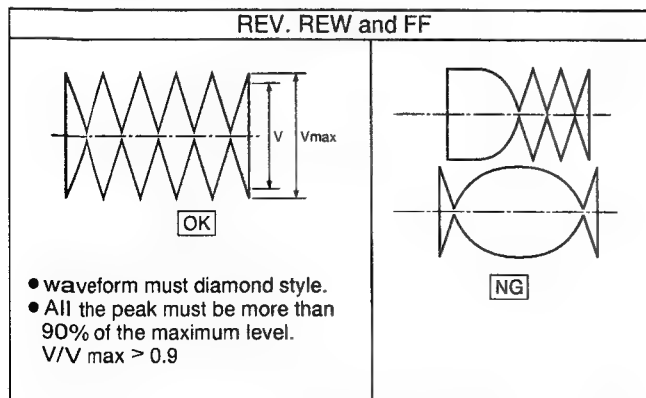

Fig. M-10
3. Confirm the Envelope Waveform signal is in the specification in the REV, REW and FF mode as shown in Fig. M-10.